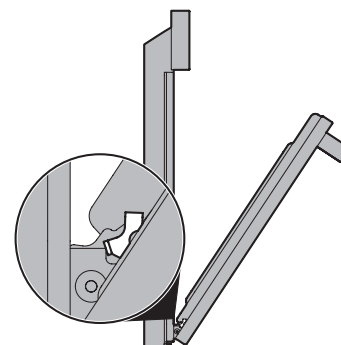

Figure 29: Removal Position
3. Grasp the door by the sides, and close the door until the door frame makes contact with the unlocked hinges (Figure 29).
2. Hold the oven door at the same angle as the removal position (Figure 29). Carefully insert the hinge levers into the oven frame until you feel the hinge levers are seated into the hinge notches. The hinge arms must be fully seated into the hinge notches before the oven door can be fully opened. (Figure 29).